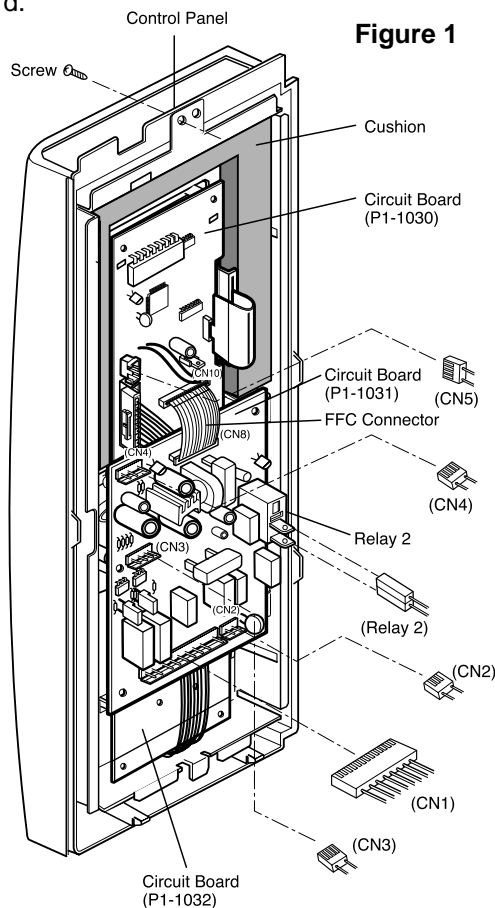

Figure 1
A. REMOVING POWER AND CONTROL CIRCUIT BOARD (Figures 1, 2, 3 and 4)
- (1) Remove a screw securing the control panel assembly to the oven cavity.
- (2) Remove the control panel with pushing it upward.
- (3) Remove the three connectors (CN1, CN2, CN3, CN4, CN5) and wire leads (Relay2) from the circuit board.